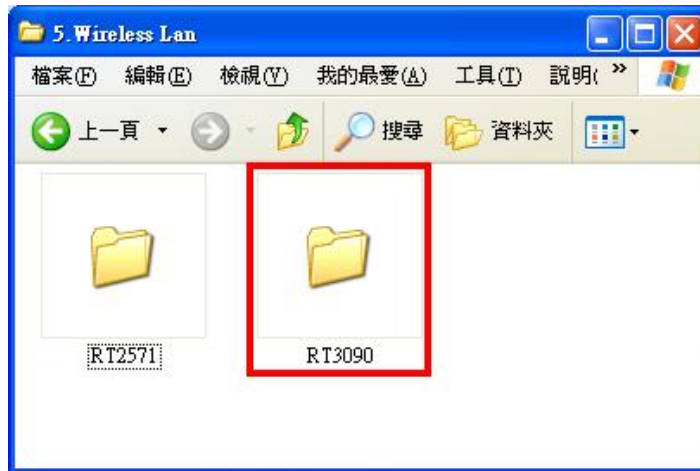

Figure 7-30: Wireless Driver Folders
Step 2: A new window opens (**Figure 7-30**). Select the **RT3090** folder. Double click the .exe file to install the wireless LAN driver.